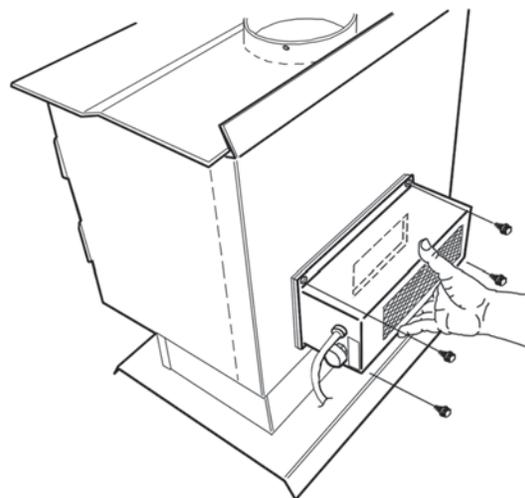

Figure 9 – Attach Optional Blower to Stove Body
13. Mount the blower assembly to the back of the stove (Figure 9) aligning the fan opening to the opening in the back of the stove. Secure with four sheet metal screws.